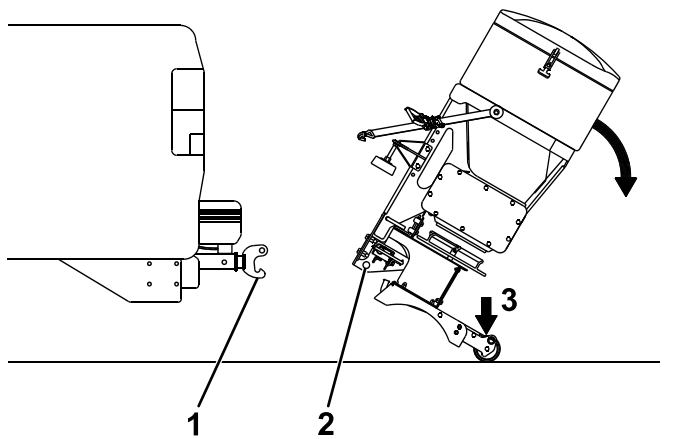

Figure 21
3. Grip the spreader firmly and step on the leg assembly to rotate it back until the bottom pin of the RT3 attachment clears the hook on the RT3 hitch (Figure 21).